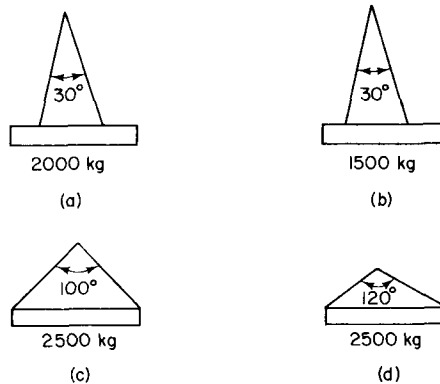

Fig. 2.31
28. Which of the arrangements in Fig. 2.31 puts the sling in the greatest tension?